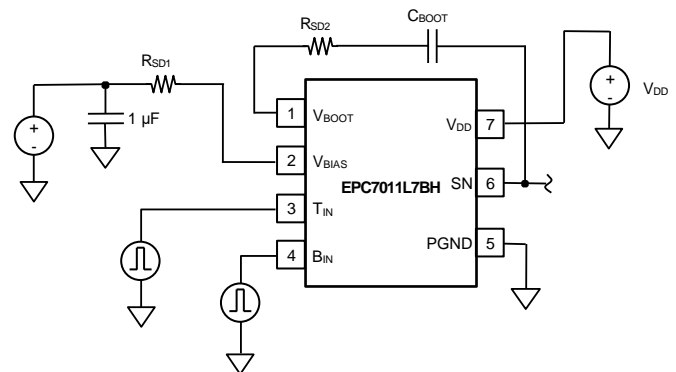

Figure 3. External Damping Resistor Connections
The EPC7011L7BH is designed to be a high-speed power driver. As such it has extremely fast switching node (SN) rise and fall times by design. Fast rise and fall times can and will result in unwanted voltage spikes at the V_{DD} and PGND pins due to any parasitic layout inductance ($V_{SPIKE} = L_{PAR} \cdot di / dt$). If these spikes cannot be reduced to an acceptable level through PCB optimization, two resistors may be added to provide the necessary damping to the local supply loop. These resistors, R_{SD1} and R_{SD2} are shown in Figure 3.